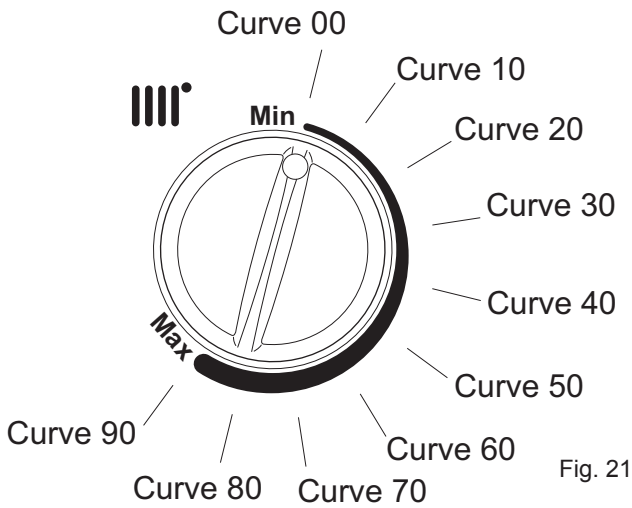
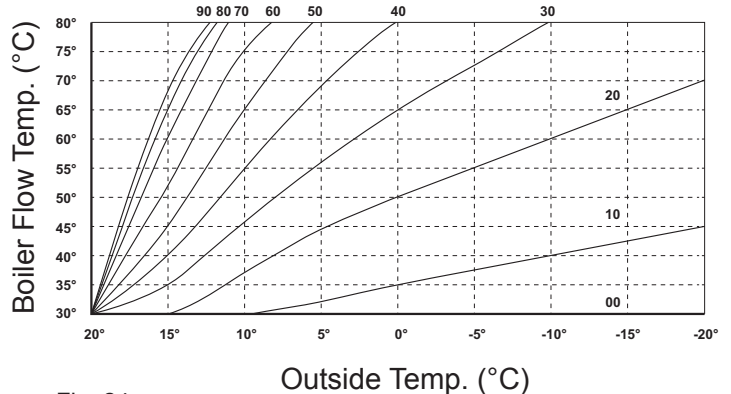

Fig. 21
Fig. 24
2. The Central Heating Control Knob should be turned clockwise (Fig. 21) to the position which corresponds with the desired curve as shown on the graph (Fig. 24).
For example, if Curve '40' is selected (Fig. 24), at an outside temperature of 0°C the boiler flow temperature will be 80°C. Consider the type of dwelling and discuss with the user their requirements to determine the most appropriate curve.